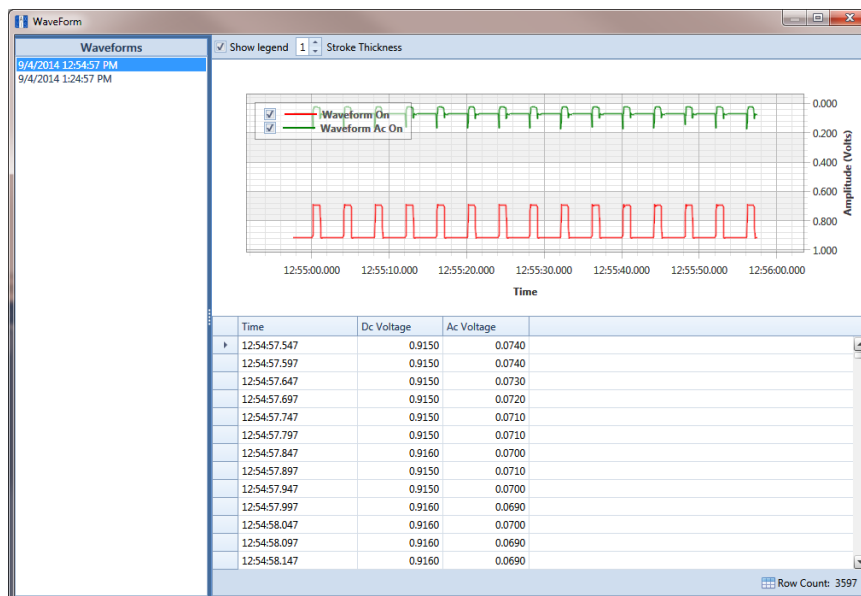

Figure 14-10. WaveForm
- 4 Select a stationary survey in the *Stationary Surveys* grid and then click  **Show Waveform** to open the *Waveform* window (Figure 14-10).